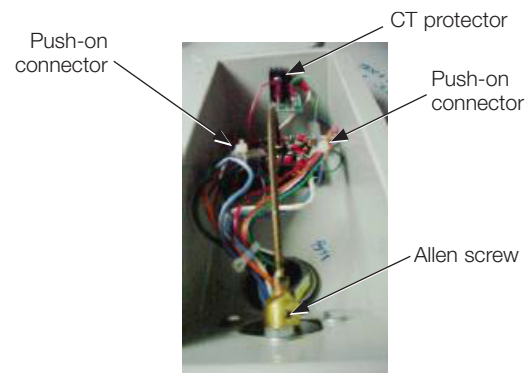

Figure 4.
8. Using a pair of needle-nose pliers, connect the control cable and position indicator leads with push-on connectors on to the clear insulated male connector. Refer to Figure 4 and Table 2.
11. Place the ring tongue terminal of the ground lead over the stud followed by the nut and tighten. Refer to Figure 4.